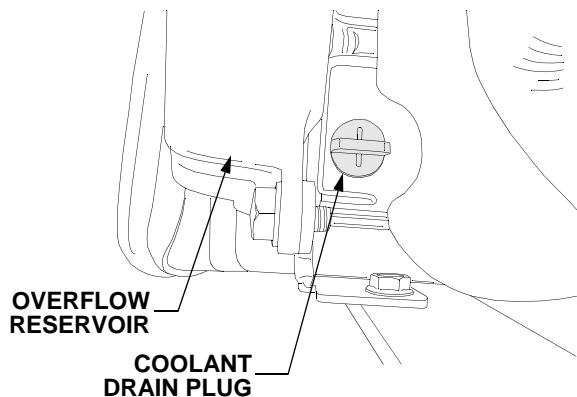

Figure 56
- Locate the radiator drain plug in the lower left rear corner of the radiator. See Figure 56.